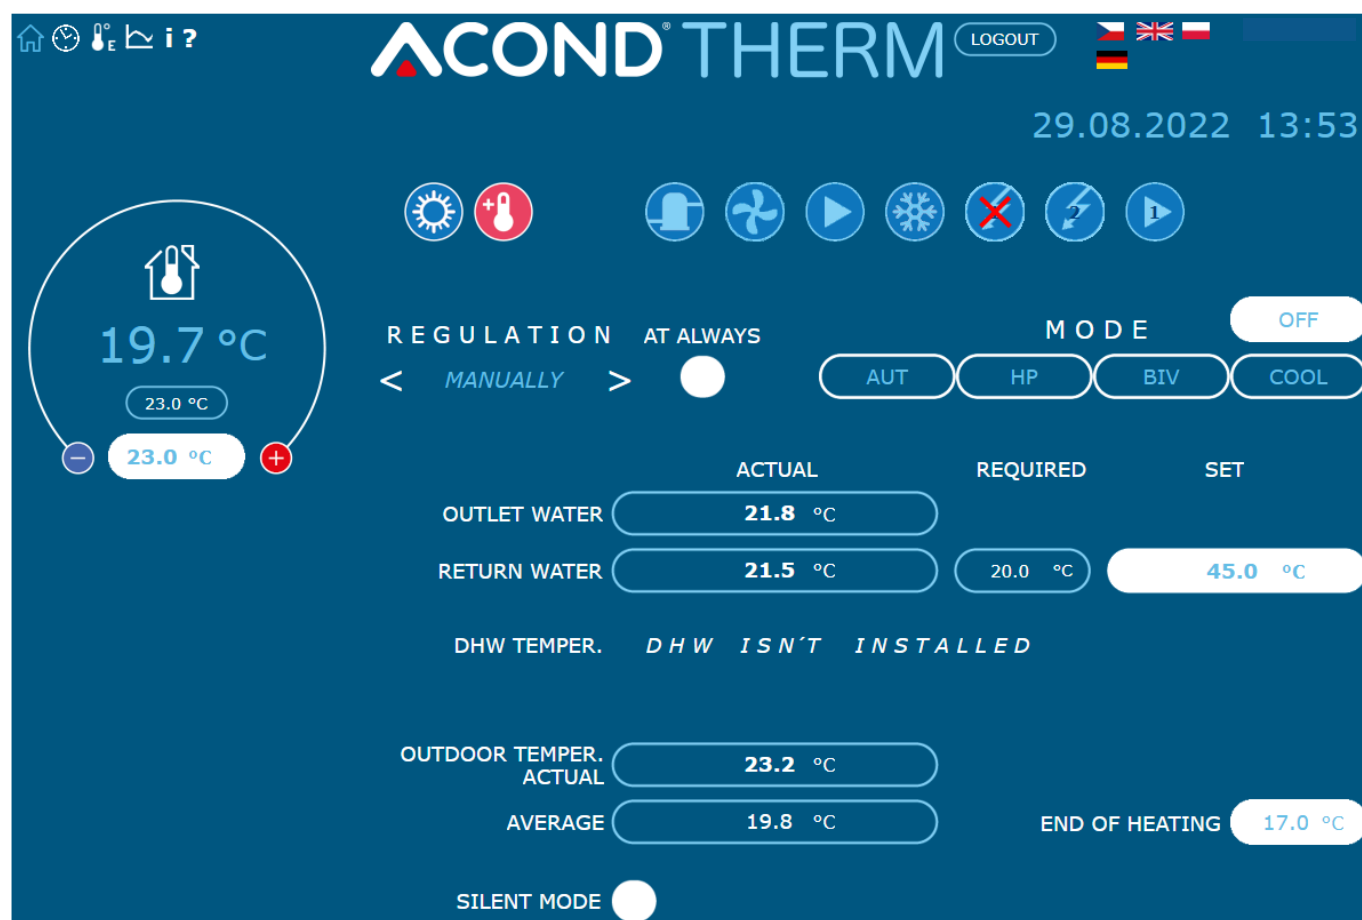

Figure 5: Main page of the web browser
Confirm your name and password by clicking the Login button or the Enter key and the main page will be displayed - *see Figure 5*.
1. **Home page**  (**Figure 5**) is displayed after logging in to the system and any time you click on the little house icon.